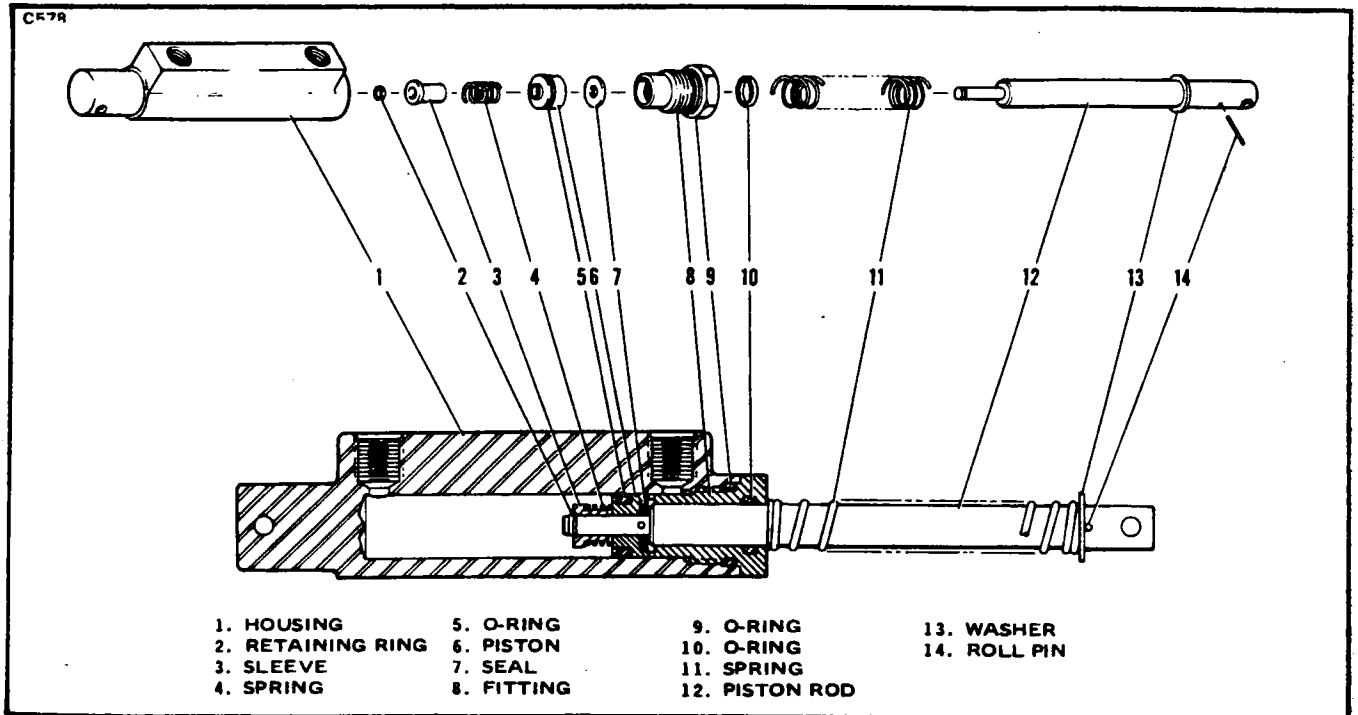
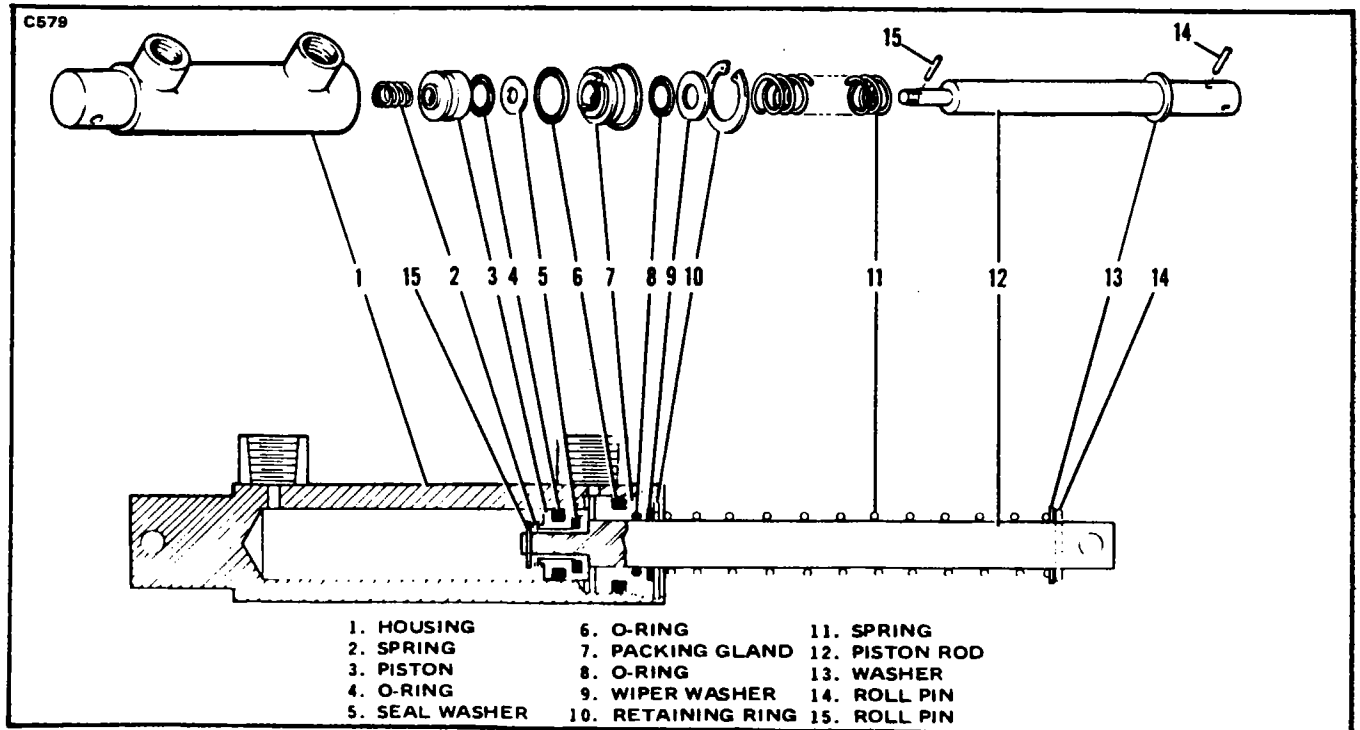
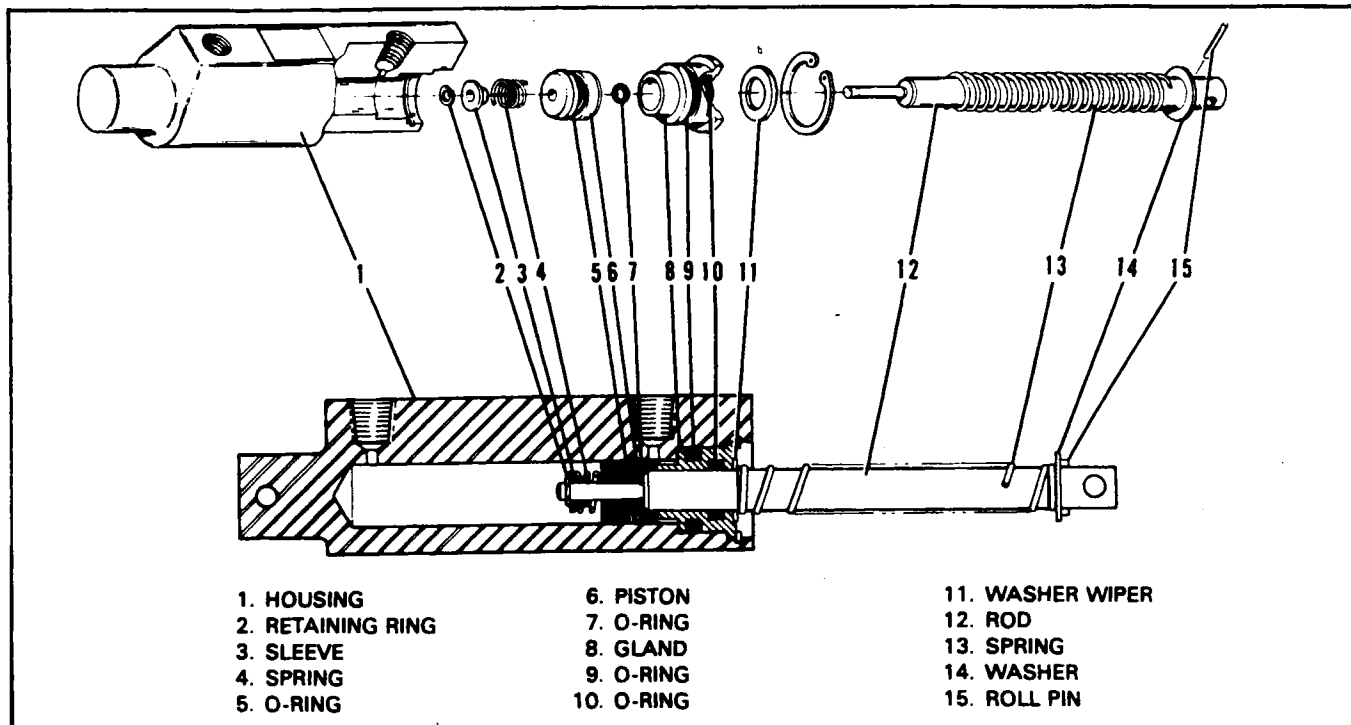

Figure 7-18. Brake Cylinder
Figure 7-19. Brake Cylinder
Figure 7-20. Brake Cylinder
- a. Gar-Kenyon cylinder number 17000. (Refer to Figure 7-18.)
- 2. To disassemble the cylinder, first remove the piston rod assembly by unscrewing the fitting (8) from the cylinder.
- 3. The piston rod assembly may be disassembled by first removing the retaining ring (2) securing the sleeve (3) and then removing the spring (4), piston (6), seal (7), fitting (8), and, if desired, the large return spring (11).
- b. Cleveland cylinder number 10-27. (Refer to Figure 7-19.)
- 2. To disassemble the cylinder, first remove the piston rod assembly by removing the retaining ring (10) from the annular slot in the cylinder housing (1). Draw the piston rod assembly from the cylinder.
- 3. The piston rod assembly may be disassembled by first removing the roll pin (15), spring (2), and then the piston assembly (3), seal (5) and packing gland (7) and, if desired, the large return spring (11).
- c. Cleveland cylinder number 10-30. (Refer to Figure 7-20.)
- 2. To disassemble the cylinder, first remove the piston rod assembly by removing the retaining ring from the annular slot in the cylinder housing (1). Draw the piston rod assembly from the cylinder.
- 3. The piston rod assembly may be disassembled by first removing the retaining ring (2), sleeve (3), spring (4), and then the piston assembly, O-ring (5), and gland (8), and if desired, the return spring (13).
7-64. ASSEMBLY OF BRAKE CYLINDER. (Refer to Figures 7-18 and 7-19.)
1. Install new O-rings on the inside and outside of the fitting (8) and on the outside of the piston (6).
2. To assemble the piston rod assembly, install on the rod (12), in order, the roll pin (14), return spring retainer washer (13), return spring (11), fitting (8) with O-rings, seal (7), piston (6) with O-rings, spring (4) and sleeve (3). Secure these pieces with the retaining ring (2) on the end of the rod.
3. Insert the piston rod assembly in the cylinder (1) and secure fitting (8).
1. Install new O-rings on the inside and on the outside of the piston (3).
2. To assemble the piston rod assembly, install on the rod (12), in order, the roll pin (14), washer (13), spring (11), washer (9), packing gland (7) with O-rings, seal (5), piston assembly (3) with O-rings, spring (2), and roll pin (15).
3. Insert the piston rod assembly in the cylinder (1) and secure with the retaining ring (10).
- c. Cleveland cylinder number 10-30 (Refer to Figure 7-20.)
1. Install new O-rings on the inside and outside of the packing gland (7) and on the outside of the piston (3).
2. To assemble the piston rod assembly, install on the rod (12), in order, the roll pin (14), washer (13), spring (11), washer (9), packing gland (7) with O-rings, seal (5), piston assembly (3) with O-ring, spring (2), and roll pin (15).